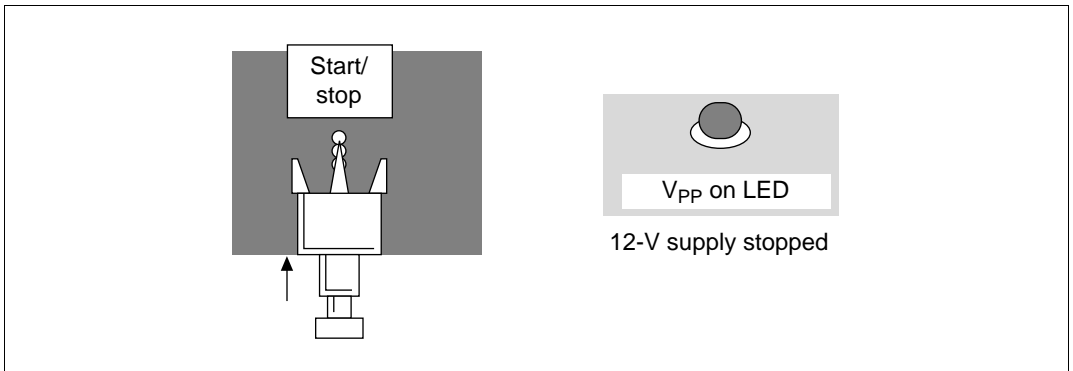

Figure 4.10 End of Programming Operation
7. Press the adapter board’s transfer switch to stop the 12-V supply to the Vpp pin and mode pin. The Vpp ON LED (red) goes off (figure 4.10). The F-ZTAT microcomputer in the user machine starts the application program.